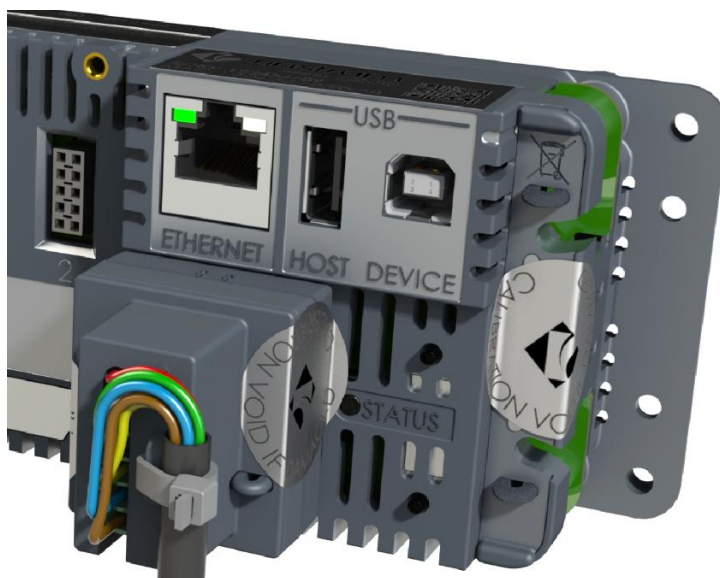

Figure 1: Setup Switch and pluggable screw terminal load cell connection sealing with a sticker.
2. Place a sticker over the centre of the setup switch cover and onto the side of the enclosure as shown in Figure 1.
- Place the load cell connector cover over the load cell connector and place a sticker across the load cell connector cover as shown in Figure 1.